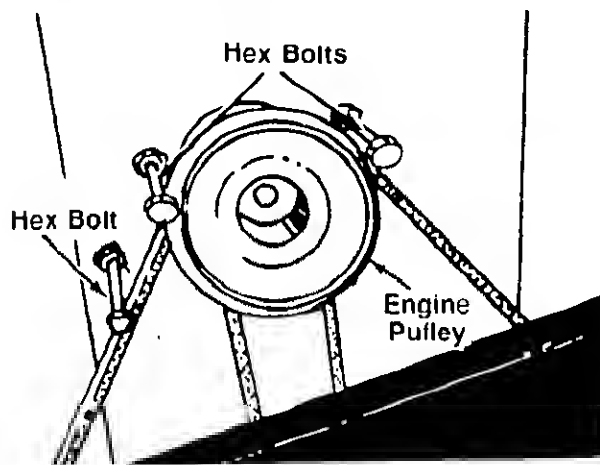

FIGURE 26.
Figures 26 and 29 through 31 are shown with the unit tipped up for clarity. It is not necessary to tip the unit to remove the belts.
2. Remove the three hex bolts (belt keepers) from the engine pulley belt guard. See figure 26.
Make certain hex bolts are reassembled as shown in figure 26.
3. Remove the three hex bolts (belt keepers) from the engine pulley belt guard. See figure 26.